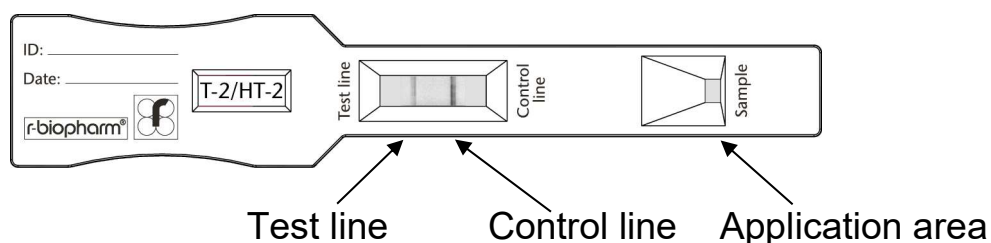

Fig. 1: RIDA®QUICK T-2 / HT-2 RQS ECO test strip.
- Apply 100  $\mu\text{l}$  of the sample solution (see section 8. Sample preparation) on the application area of the test strip (see Fig. 1).
The left line in the reaction area is the test band (test line, see fig. 1). Its appearance and intensity depends on the T-2 / HT-2 toxin concentration of the